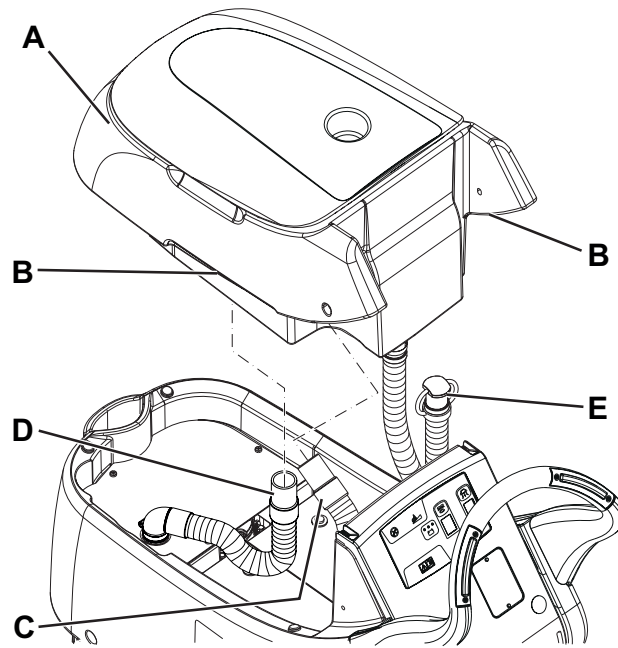

Figure 5
1. Empty the recovery tank (16) as shown in the relevant paragraph.
4. Remove the recovery water drain hose (11) from its holder.
5. Grasp the recovery tank (A, Fig. 5) in the area (B) and slightly raise it.
6. Disconnect the vacuum hose (C) from the tank.
7. Disconnect the hose (D) from the tank vacuum grid.
8. Remove the drain hose(E) through the slit, then remove the tank (A).